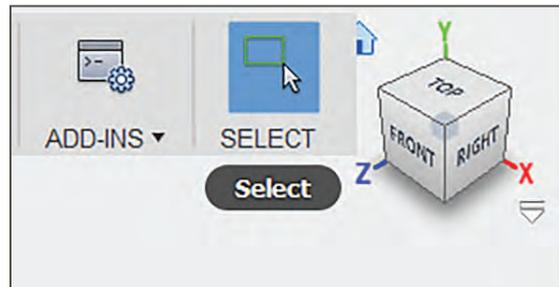

FIGURE 13-18: The Select tool
- ▶ **Select:** Use this option to deselect whatever tool you're in and activate the Select tool (Figure 13-18). From upper-left to lower-right is a selection window that selects everything inside it. From lower-right to upper-left is a crossing window, which selects everything it touches.